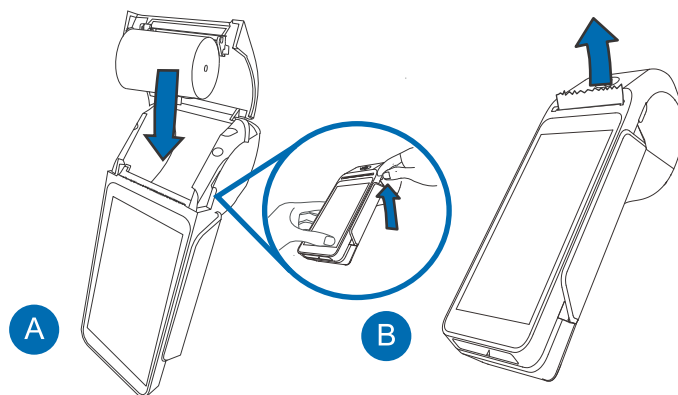

Figure 11 Steps to Install a Paper Roll in T650c
- A magnetic card reader built into the device for performing debit or credit card transactions. The card can be swiped from either direction. To ensure a proper read of the magnetic swipe card, insert the magnetic card from the side of the device as shown in Figure 11.
- 1 Hold both sides of the paper door, which is on the upper corner of the device and open the paper door by pulling outside (See below Figure 11).